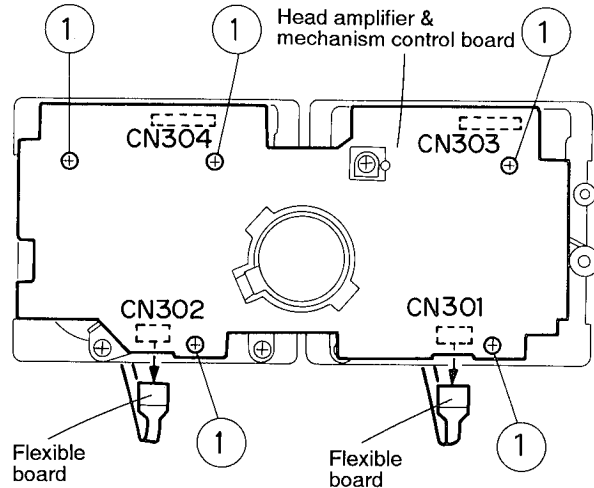

Fig.5-27
**■ Removing the Head Amp. & Mechanism Control P.C. Board** (See Fig. 5-27)
2. After turning over the cassette mechanism assembly, remove the five screws ① retaining the head amp. & mechanism control P.C. board.